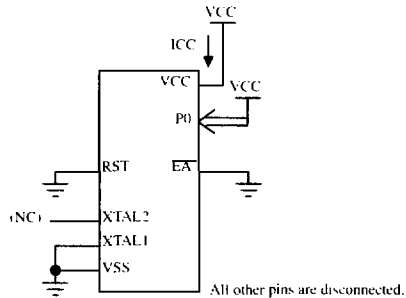

Figure 21. ICC Test Condition, Power Down Mode.
3. Power Down ICC is measured with all output pins disconnected; EA = PORT 0 = VCC; XTAL2 N.C.; RST = VSS (see Figure 21.).